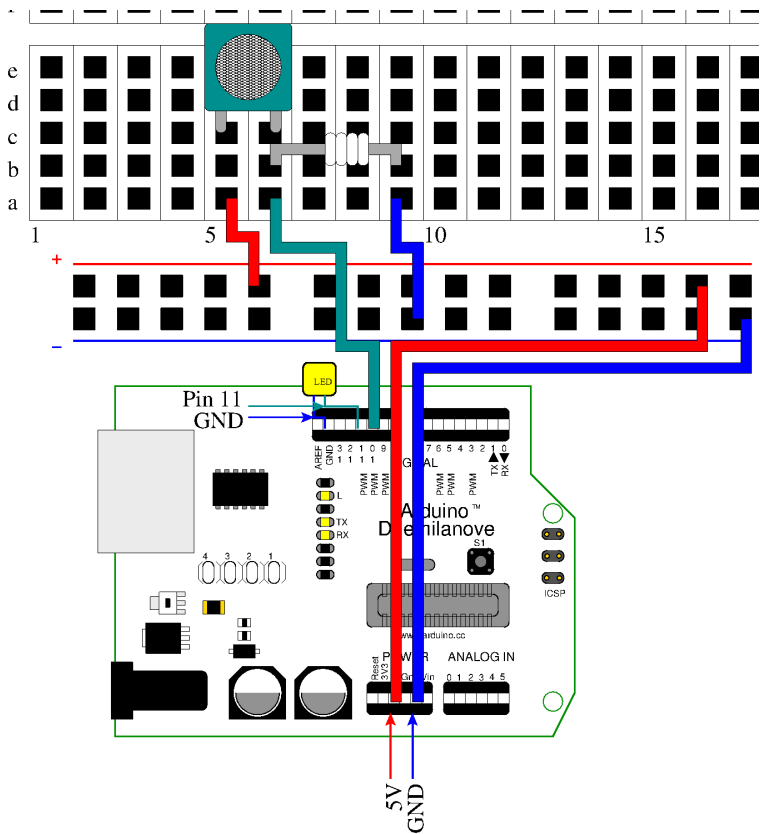

Figure 2.5: Blinking LED advanced layout
Before writing any code, try to assemble the parts as shown in Figure 2.5.
1. Place the pushbutton on your breadboard. In Figure 2.5, the two pushbutton ”legs” are inserted into holes 5c and
3. In order to avoid confusion, cables on all figures are color coded. *Red* represents power cables, *blue* are connections to GND and *cyan* are connections to IO pins on the Arduino. Try to duplicate the layout of Figure 2.5.